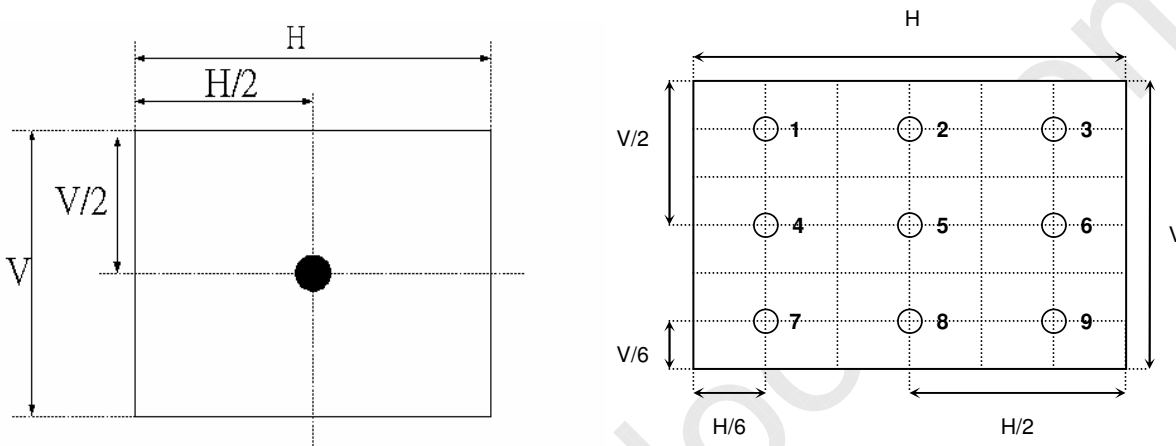

Fig.4-2 Optical measurement point
2. Surface Luminance is luminance value at point 5 with 100% dimming across the LCD surface 50cm from the surface with all pixels displaying white. For more information see Fig. 4-2. When lamp current $I_L=10.5\text{mA}$, $L_{WH}=L_{on5}$, where L_{on5} is the luminance with all pixels displaying white at center 5 location.